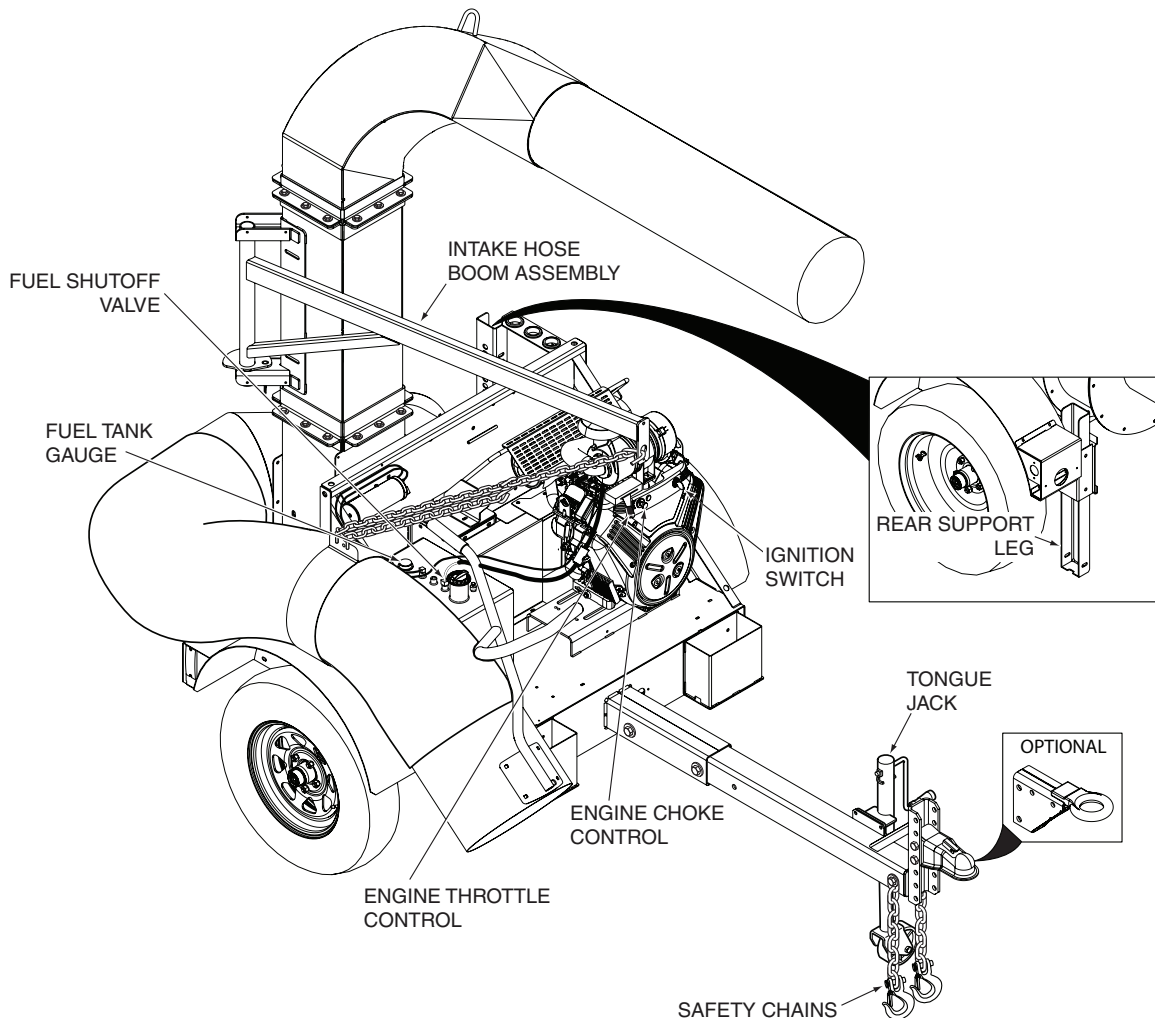

Figure 4-1. Controls and Instruments
1. **Ignition Switch (Figure 4-1).** The ignition switch is used to start the engine and has three positions; OFF, ON, and START.
2. **Engine Throttle Control (Figure 4-1).** Used to control the engine speed. Pushing the lever inboard increases engine speed. Pulling the lever outboard decreases engine speed. Full outboard position is the IDLE position. Full inboard is the operating position.
3. **Engine Choke Control (Figure 4-1).** Used to start a cold engine.
4. **Tongue Jack (Figure 4-1).** Used to raise and lower the ball hitch receiver or optional pintle hitch onto or off of the tow vehicle.
5. **Safety Chains (Figure 4-1).** Used to connect to the tow vehicles cradle draw bar in criss-cross fashion in case of an accidental disconnect.
6. **Rear Support Leg (Figure 4-1).** Used to support the truck loader when disconnected from the tow vehicle.
7. **Fuel Tank Gauge (Figure 4-1).** Indicates the amount of fuel in the fuel tank.
8. **Fuel Shutoff Valve (Figure 4-1).** Located on the fuel tank. Used to shut off fuel supply to the engine. Rotate the valve counter clockwise to supply fuel. Rotate the valve clockwise to shut off fuel supply.
9. **Intake Hose Boom Assembly (Figure 4-1).** Used to support the intake hose. The support chain can be raised or lowered until the intake nozzle floats 2-3 inches from the ground to help make operation easy and comfortable.
2. Be sure the fuel shutoff valve, located on the fuel tank, is completely open. See Figure 4-1.